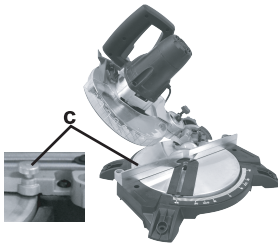

Fig.10
3. MITRE CUTS (Fig. 10)
5. COMPOUND ANGLE CUTS (Fig. 10)
6. The sliding upper fence section (Fig. 10)